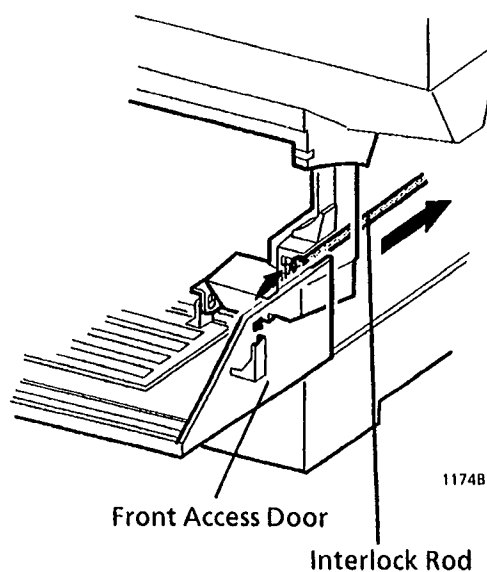

Figure 1. Closing the Front Door
1. (Figure 1): When the front access cover is closed, the protrusion on the cover pushes on the interlock rod, which engages the switch cam.